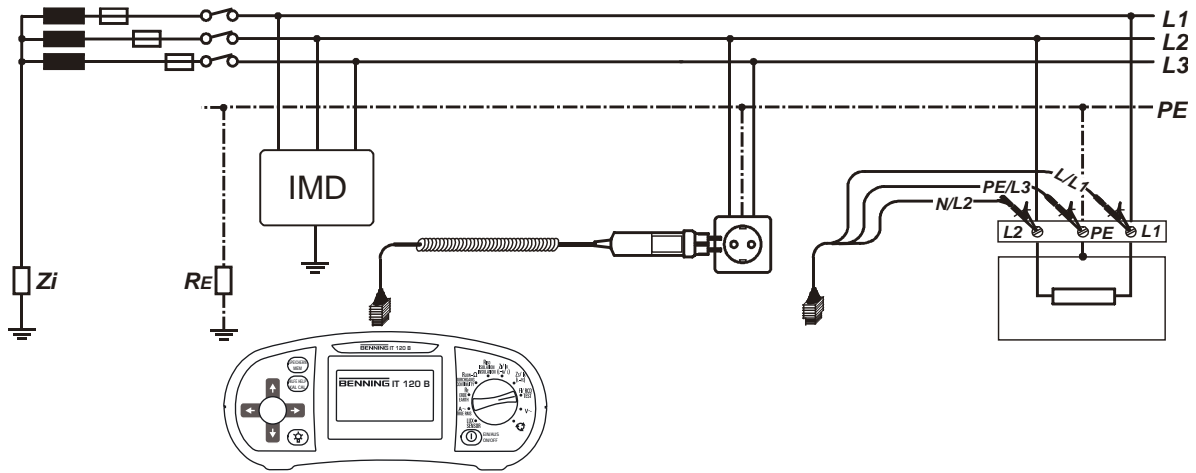

Figure 11.5: Connection of test commander and universal test cable
Step 3 Connect the test cable to the component to be tested. For carrying out the fault current measurement for the first fault, follow the connection plan shown in figure 11.5. Please use the help function, if necessary.